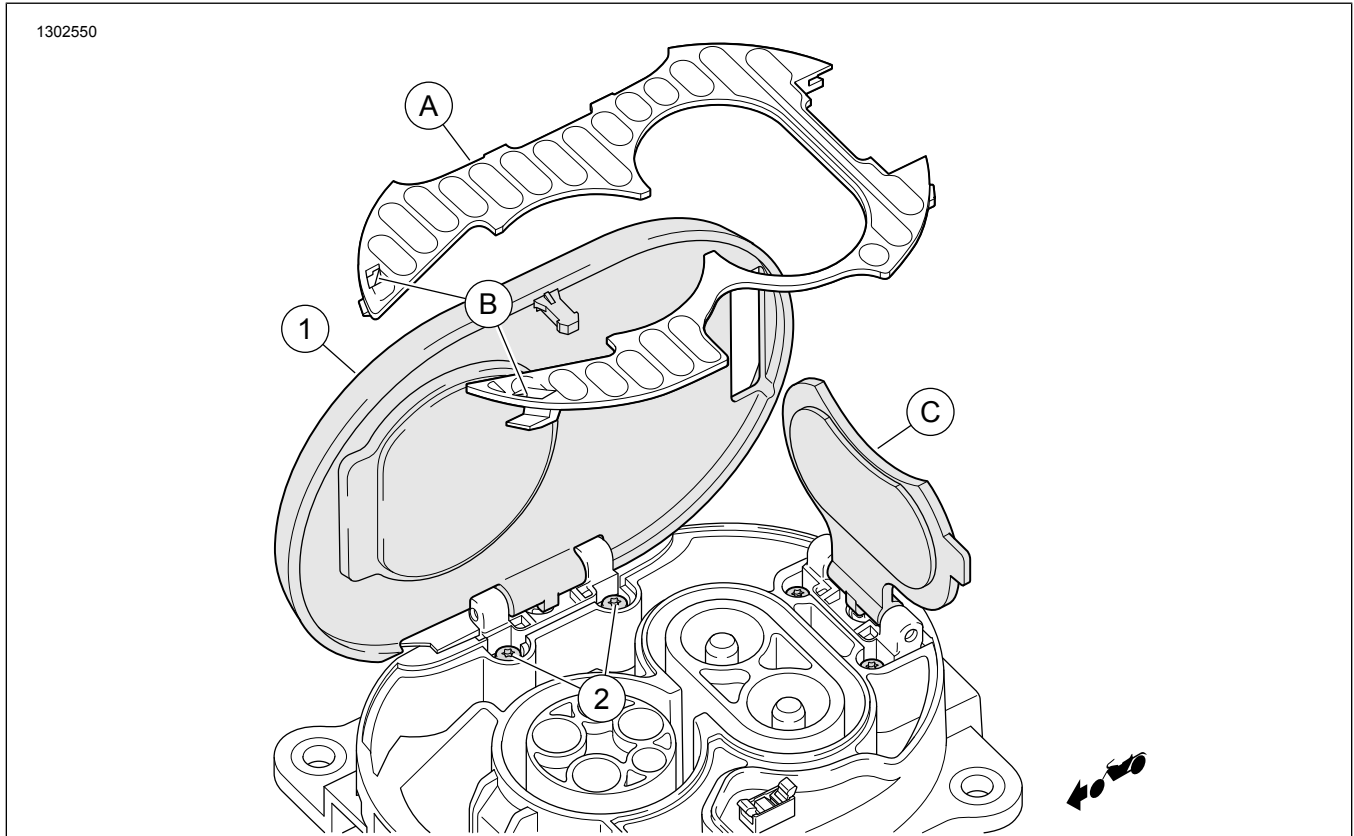

Figure 1. Kit Contents: Charge Door
1. See Figure 1. Open Original Equipment (OE) AC door assembly (1).
2. Remove faceplate (A).
- a. Open DC door assembly (C).
- b. Gently insert small flathead screwdriver into slots (B) to release clips.
3. Remove mounting screws (2).
4. Remove AC door assembly (1).
1. See Figure 1. Install **new** AC door assembly (1).
2. Secure with **new** mounting screws (2) from kit. Tighten. Torque: 1–1.25 N·m (9–11 **in-lbs**)
3. Install faceplate (A).
4. Close DC door assembly (C).
5. Close AC door assembly (1).